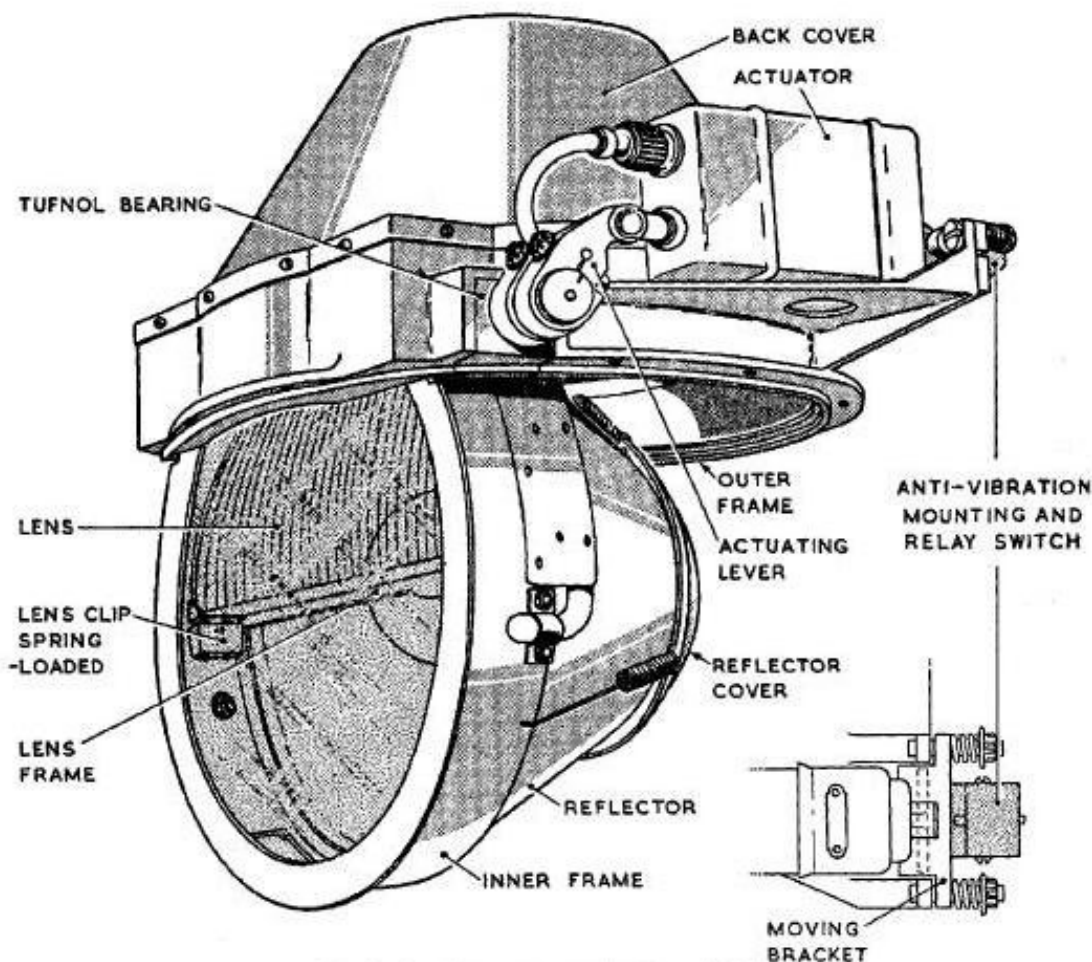

Fig. 1. Landing lamp, Harley Type II KD
2. The lamp consists (*fig. 1*) of three main castings, viz., the outer frame casting which takes the weight of the lamp in the aircraft; the inner frame casting or filament housing which is retractable, and the lens frame casting which carries the lens and bulb holder and locates the reflector.